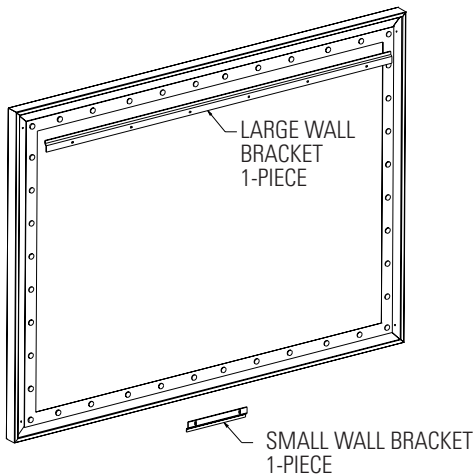

FIGURE 2
1. Secure the wall bracket to wall studs at the desired height. Make sure the bracket is level. The top of the frame will be 1/8" above the top of the wall bracket when mounted. You will need at least 5/8" clearance above the bracket to hang the screen. Figures 2, 3, and 4 show the proper orientation for the supplied wall brackets.